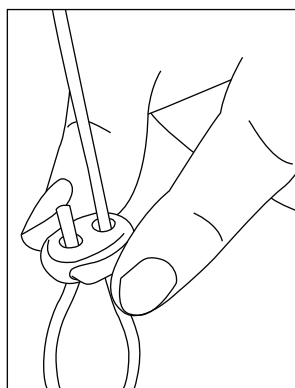

FIGURE 4
- iii. Re-insert the rope into the adjuster (FIG. 4)
- iii. Re-insert rope into the adjuster (FIG. 4)